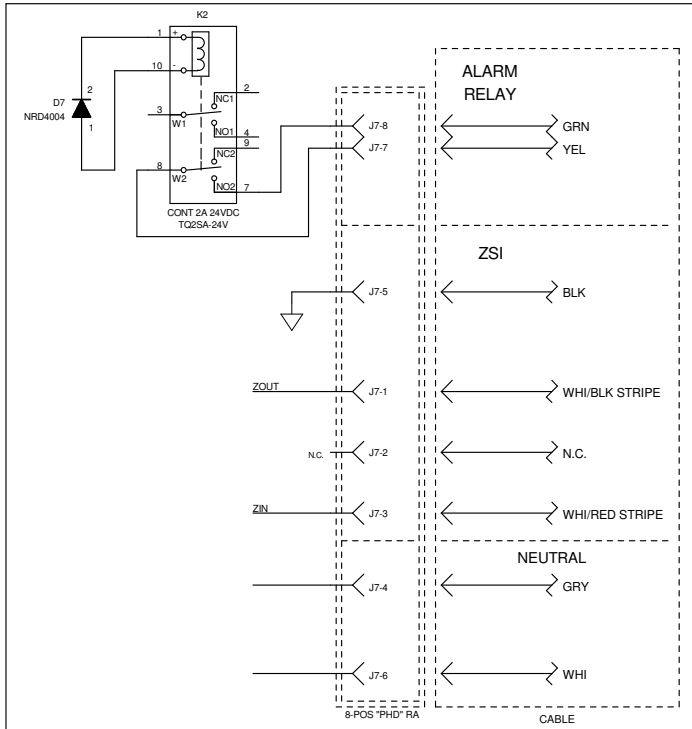

Figure 12. Alarm, ZSI, and Neutral Wiring Diagram.
1. The High Load Alarm Relay option will provide a SPST contact closure when the trip unit current equals or is greater than 105% of  $I_n$  for a period of 38 seconds. If the current drops below the 105% value, the contact will open. The yellow and green wires that exit the right side of the breaker are the common (C) and normally open (NO) of this relay (See Figure 12).
2. The Ground Fault Alarm Only option operates in a similar fashion as the High Load Alarm. The SPST contact will close if the ground fault pick-up setting is exceeded and will open when below the ground fault pick-up setting. The yellow and green wires that exit the right side of the breaker are the common (C) and normally open (NO) of this relay (See Figure 12).
3. The Ground Fault Relay option will provide a SPST contact closure immediately before the breaker will trip on a ground fault over current detect. This closure is momentary (50ms) and the customer must provide the necessary external circuitry in order to latch this signal. The yellow and green wires that exit the right side of the breaker are the common (C) and normally open (NO) of this relay (See Figure 12).
Three wires exit the breaker with the following color code and function: White/Black Stripe=Zone Out, White/Red Stripe=Zone In, and Black=Common (See Figure 12).